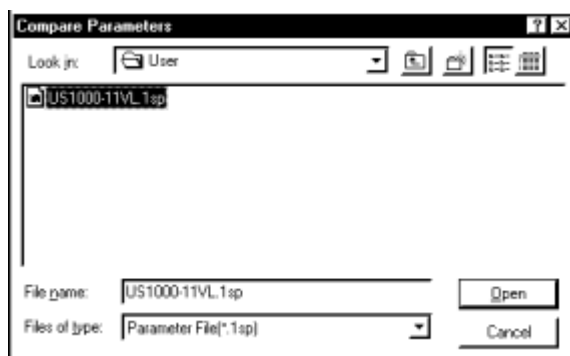

Figure 5.2.3 [Compare Parameters] Dialog Box
- (1) From the tool menus, choose <File>, then <Compare...>. The [Compare Parameters] dialog box (Figure 5.2.3) appears.
- (2) From the list box, choose the file whose data values you want to compare.
- (3) Click the <Open> button.
- (4) A message appears saying *The data on Parameter Setting Tool will be compared with those saved on the disk in a file. OK?*
- (5) If you click <Yes>, the LL1100 tool starts comparing data values.
- (6) When all parameter data match, a message appears saying *No non-matching parameter detected.*